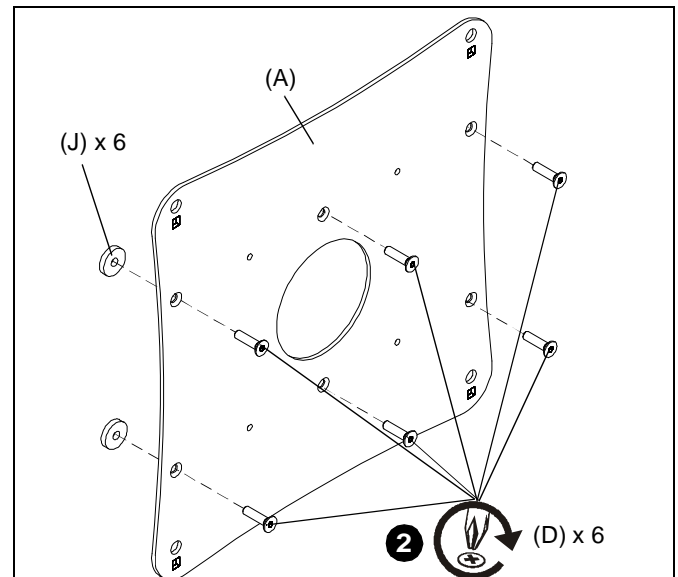

Figure 5
2. Use six nylon spacers (J) and six M4 x 16mm flat head screws (D) to attach interface bracket (A) to the display back. (See Figure 5)